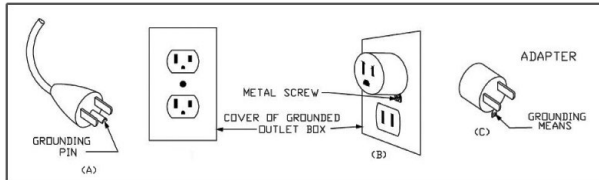

Figure 65.1
24. This product for use on 120 volt electrical outlets. The cord has a plug as shown at A in Figure 65.1. An adapter, as shown at C, can be used to connect three-blade grounding-type plugs to two-slot receptacles (it is not included with your product). The green grounding lug extending from the adapter must be connected to a permanent ground such as a properly grounded outlet box. An adapter should not be used if a three-slot grounded receptacle is available. *NOTE: A TWO-PRONG ADAPTOR IS NOT INCLUDED WITH THIS PRODUCT.